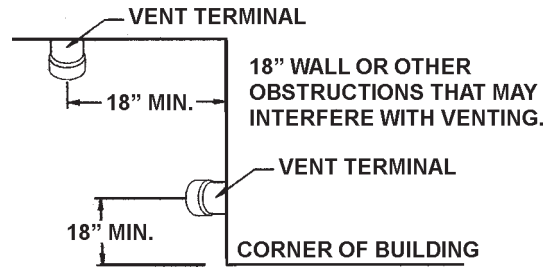

FIGURE 14.
- 18" minimum in all directions from any obstruction that may interfere, see Figure 14.